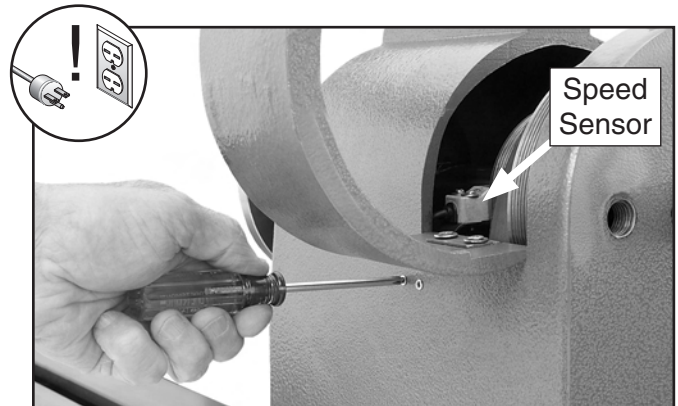

Figure 69. Reinstalling speed sensor.
23. Reinstall the speed sensor with the screws you removed earlier (see **Figure 69**). Make sure the cord does not touch the pulley sheaves or hang down near them.